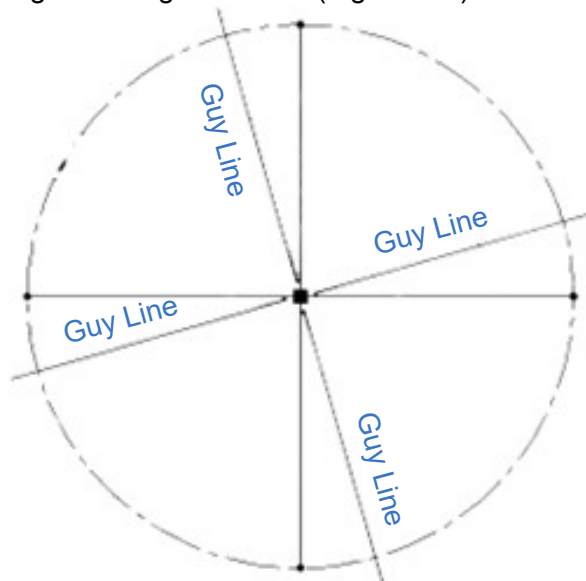

Figure 9-2 Lay Out Guy Lines
4. Prior to extending the mast, The Will-Burt Company recommends laying out any guy lines so they do not become tangled during extension (Figure 9-2).